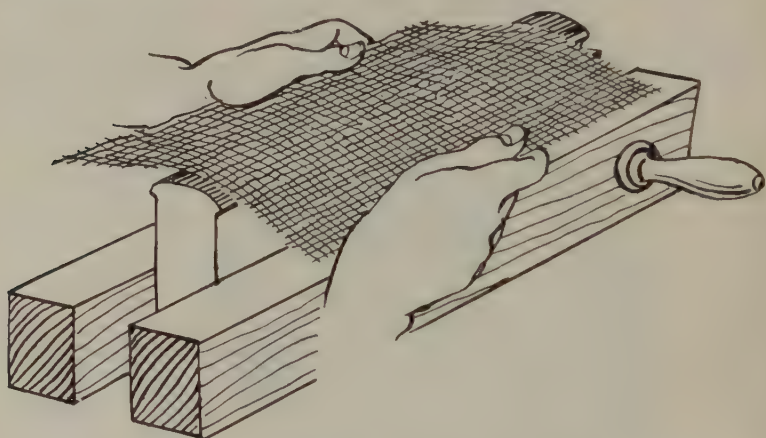

FIG. 211—APPLYING CRASH OR SUPER
9. Tip your press backward until it is flat on table so book is again presented with back *up*; lay on your piece of crash, extending evenly on both sides of joint and exactly in between headbands. (Fig. 211.) Rub down quickly with folder.